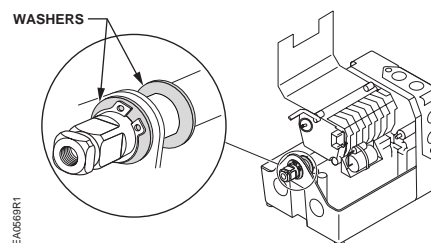

Figure 5.
6. Put one of the washers on the insert end of the shaft. See Figure 5.